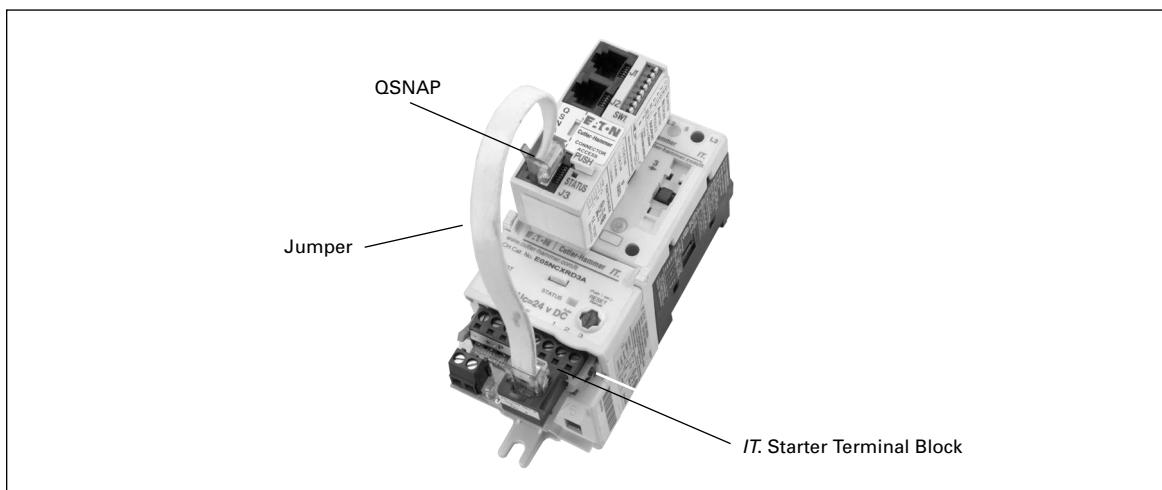

Figure 10: Jumper Installation
- Once the jumper is wired, insert the terminal block into the overload and the RJ-45 connector into J3 on the QSNAP as illustrated in **Figure 10: Jumper Installation**.